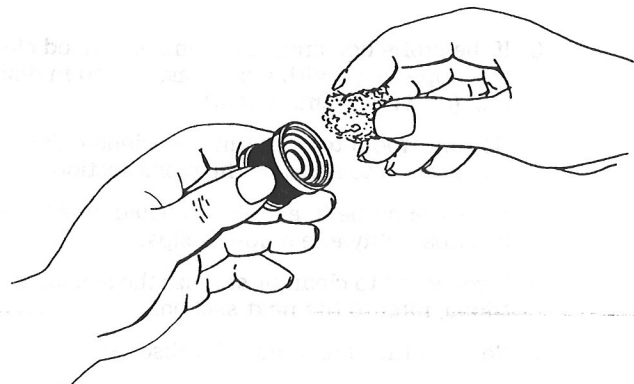

Figure 6-11
- b. Using a cotton swab slightly dampened in white vinegar, rub accumulated oxide off the circular contacts. (See figure 6-11.)